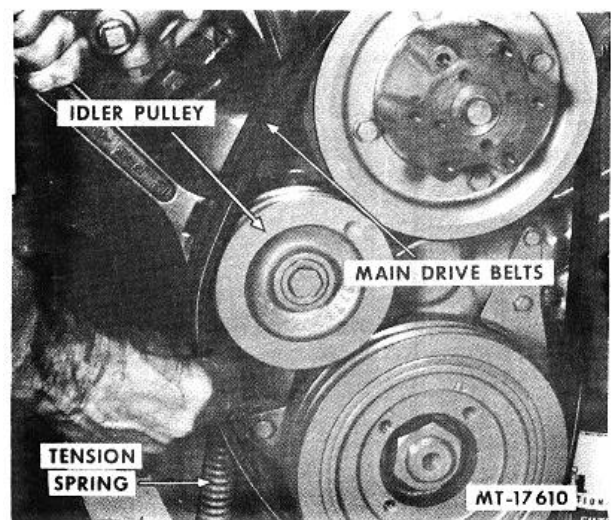

Fig. 10 Removing Main Drive Belts
5. Push idler pulley toward engine centerline and remove main drive belts (Fig. 10).